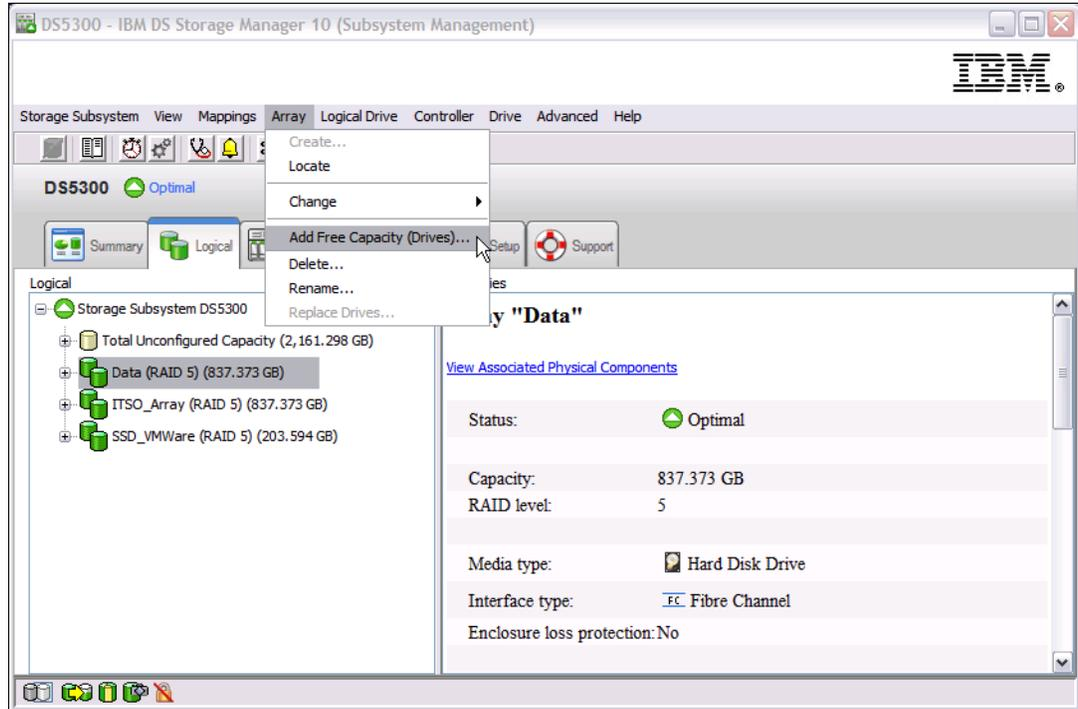

Figure 3-17 Adding free capacity to array
1. Select the array by clicking and choose **Array** → **Add Free Capacity (Drives)...** . As an alternative way, you can also right-click **Array** and select **Add Free capacity**, as shown in Figure 3-17.